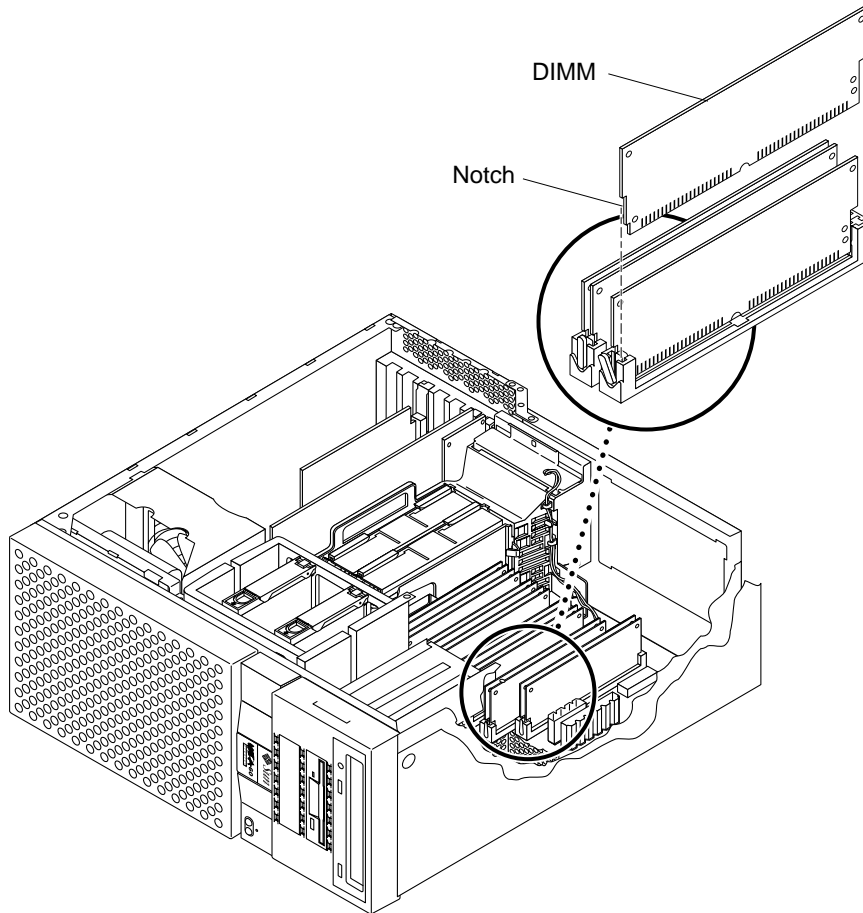

FIGURE 10-5 Removing and Replacing a DIMM
- 7. Remove the DIMM from the socket (FIGURE 10-5).**
3. **Install the DIMM as follows (FIGURE 10-5):**